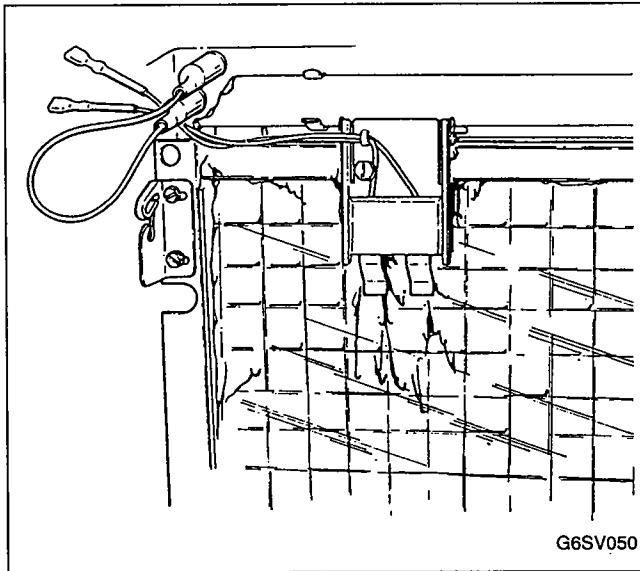

FIGURE 50. JUMPER WIRE CONNECTED TO BULKHEAD TERMINALS
Step 3: Disconnect ice thickness control probe wires from bulkhead (upper left corner). Connect the jumper wire to the bulkhead terminals, Figure 50.